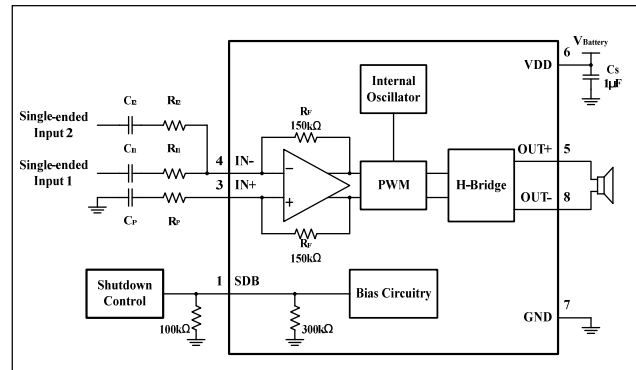

Figure 16 Application Schematic with IS31AP2005 Summing Two Single-Ended Inputs
The gain and corner frequencies (f_{c1} and f_{c2}) for each input source can be set independently (see equations (11) through (14), and Figure 16). Resistor, R_p , and capacitor, C_p , are needed on the IN- terminal to match the impedance on the IN+ terminal.